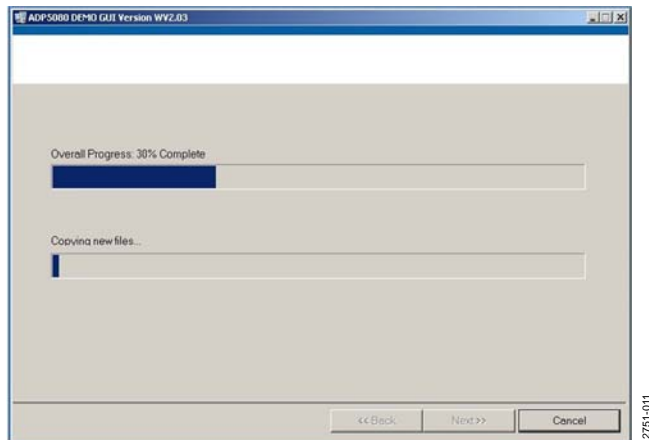

Figure 15. **Overall Progress** Window
- Allow the ADP5080 DEMO GUI installation to run (see Figure 15).